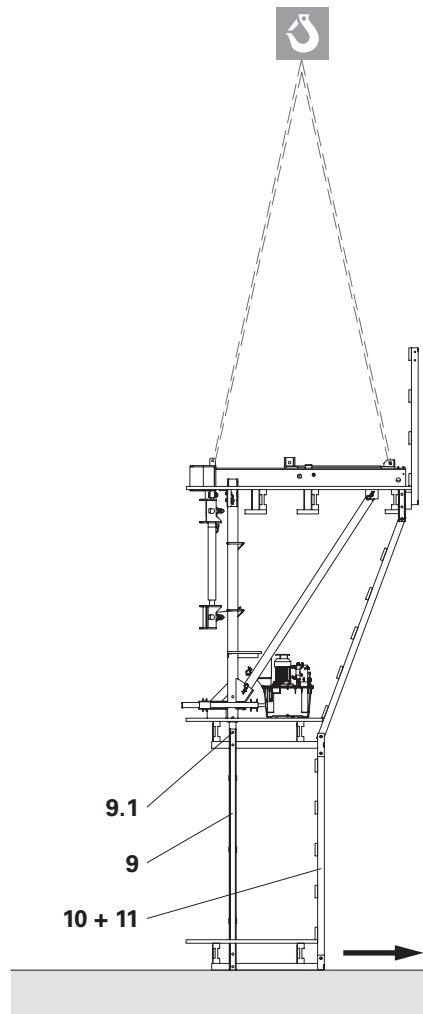
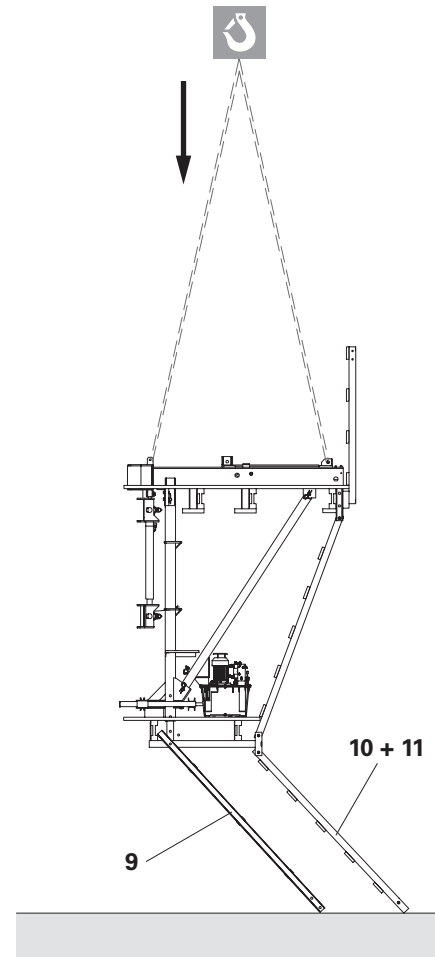

Fig. E2.03
Fig. E2.04
10. Unscrew the finishing platform vertical (9), finishing platform guardrail post (11) and finishing platform cantilever arm post (10) on the finishing platform and pull out the finishing platform.
11. Remove the finishing platform. (Fig. E2.03)
12. Remove the top screw (9.1) from the finishing platform vertical (9) on the climbing platform.
13. Swing the ladder cage and the finishing platform vertical (9) to the side and lower the climbing unit further. (Fig. E2.04)
14. Secure the ladder cage against tipping over. Unscrew, remove and dismantle the finishing platform vertical (9) and the ladder cage on the finishing platform. (Fig. E2.04)